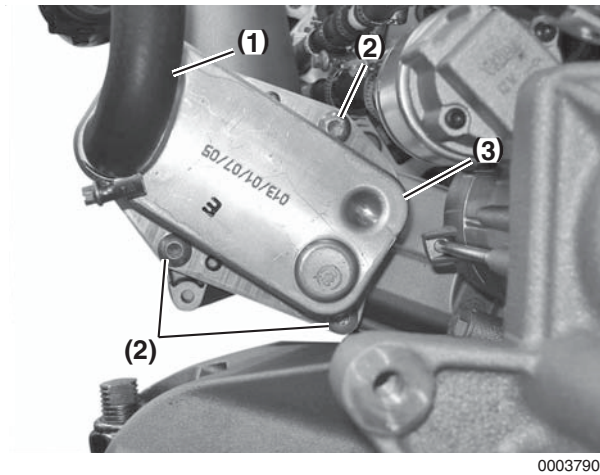

Figure 8-9
- Disconnect coolant pipe hose (Figure 8-9, (1)) from oil cooler (Figure 8-9, (3)).
- Remove three screws (Figure 8-9, (2)) and remove oil cooler (Figure 8-9, (3)).